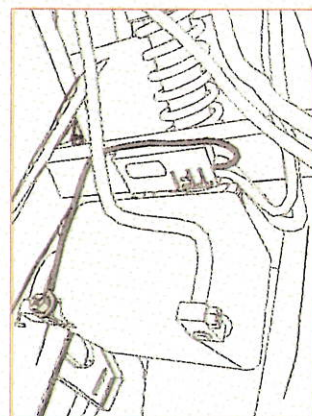

Figure 25
16. Locate the TFI as shown with the supplied Velcro. Connect the single black TFI lead to the battery ground. (Figure 25)